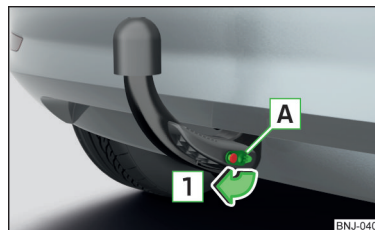

Fig. 239
- Remove the cover **A** from the lock in the direction of the arrow **1** » Fig. 239.